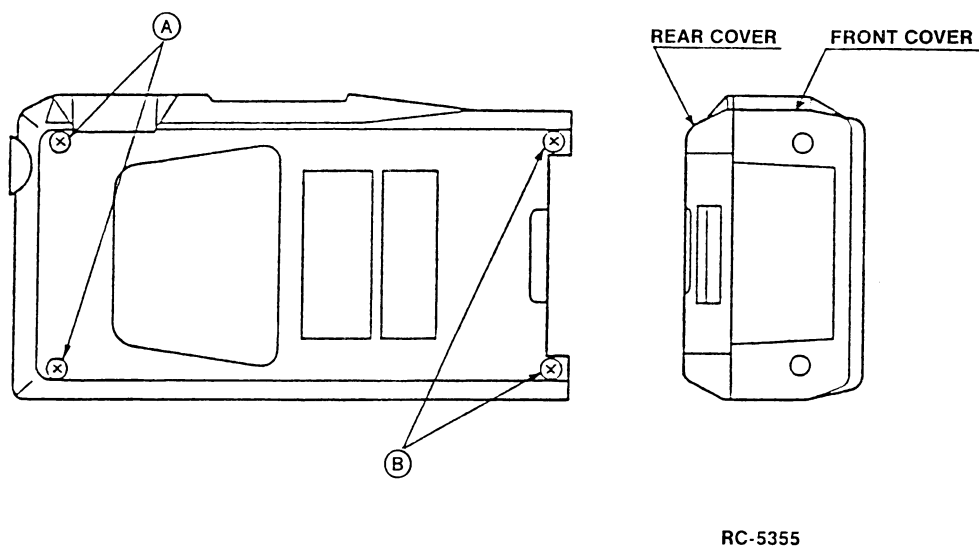

Figure 12 - Disassembly Step 1
To gain access to the radio, loosen, but do not remove, the four screws shown at (A) and (B). Carefully remove the back cover. For normal radio alignment, the back cover is all that needs to be removed. When tightening the captive screws, they should be no tighter than 4 ±0.5 inch-pounds. (See Figure 12)